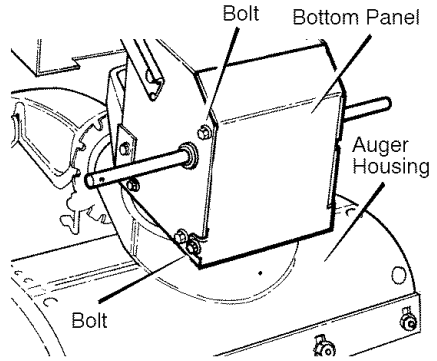

Figure 38
2. Stand the snow thrower up on the front end of the **auger housing** (see Figure 38).
4. Loosen the **bolts** on each side of the **bottom panel** (see Figure 38).
5. Install the **bottom panel** (see Figure 38).
2. Stand the snow thrower on the front end of the **auger housing (4)**. (see Figure 38).